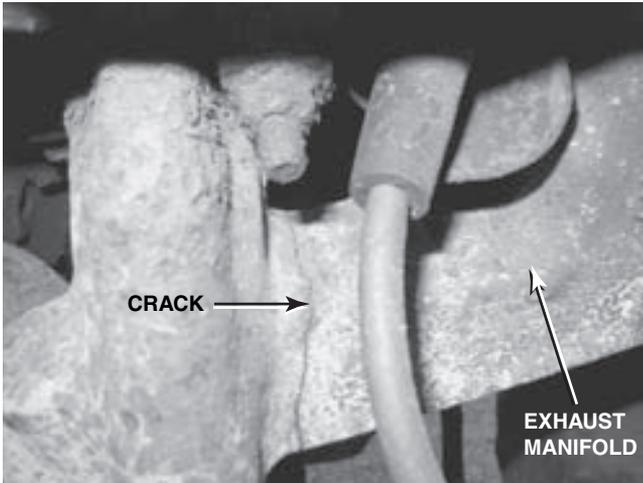

FIGURE 20-7 A cracked exhaust manifold on a Ford V-8.
7. Exhaust leak. (See Figure 20-7.)